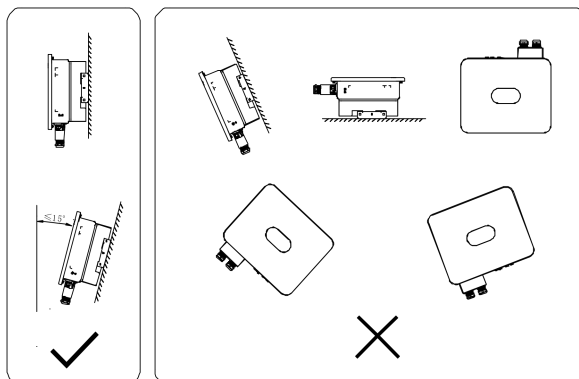

Fig. 4.6 Installation Location of Inverter
(4) The mounting surface should be upright (see Fig. 4.6). Install the inverter vertically or at a backward tilt of  $\leq 15^\circ$  so as to facilitate heat radiation. Forward tilt, horizontal installation, upside-down installation, backward tilt of  $>15^\circ$  and sideways tilt are not allowed.